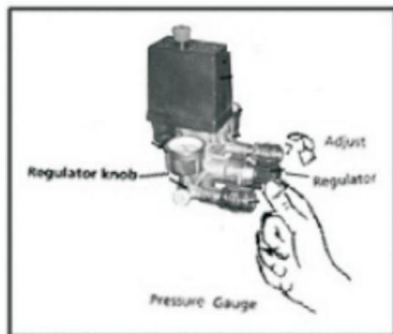

Figure 5:
**BOUTON DE RÉGULATION** (figure 5)